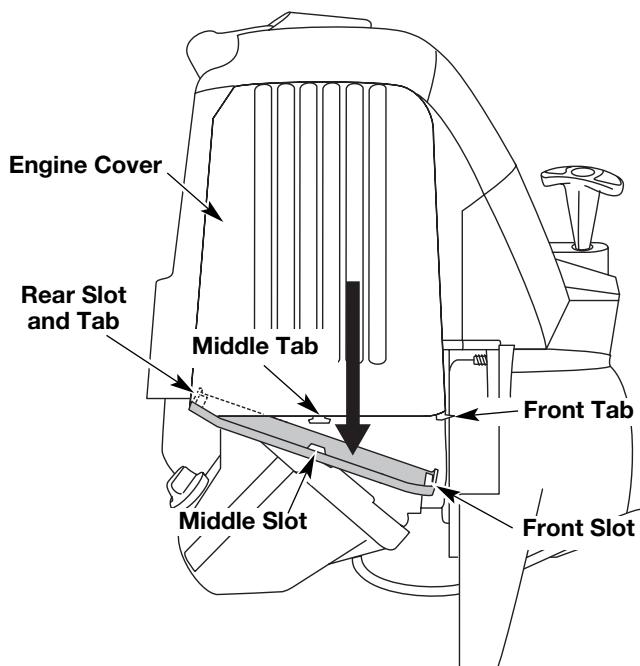

Fig. 33
1. Remove the muffler cover by pressing down on it, separating it from the engine cover. Using a flat blade screwdriver, disengage the middle and front tabs and slots first. The cover will hinge off from the rear tab (Fig. 33).
6. Remove the engine cover (Fig. 33).
13. Reinstall the muffler cover. Slip the rear tab on the muffler cover into the engine cover rear slot. Then slide the remaining slots into the tabs until they snap into place (Fig. 33).